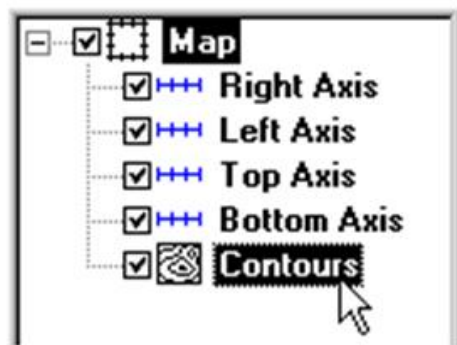

Figure 1.138 – You can select the map by clicking on it in the Object Manager (above) or by clicking the map in the plot window
1. Select the map by clicking on the map in the plot window or by clicking on the word "Contours" in the *Object Manager*. If you do not see the Object Manager click *View / Object Manager* to open it, fig. 1.138.